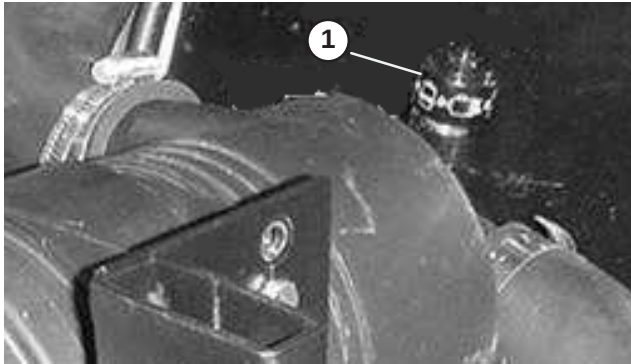

Figure 37
2. Service the air cleaner filter when air cleaner indicator (Fig. 37) shows red or every 400 hours (more frequently in extreme dusty or dirty conditions). Do not over service air filter.
7. Reset indicator (Fig. 37) if showing red.